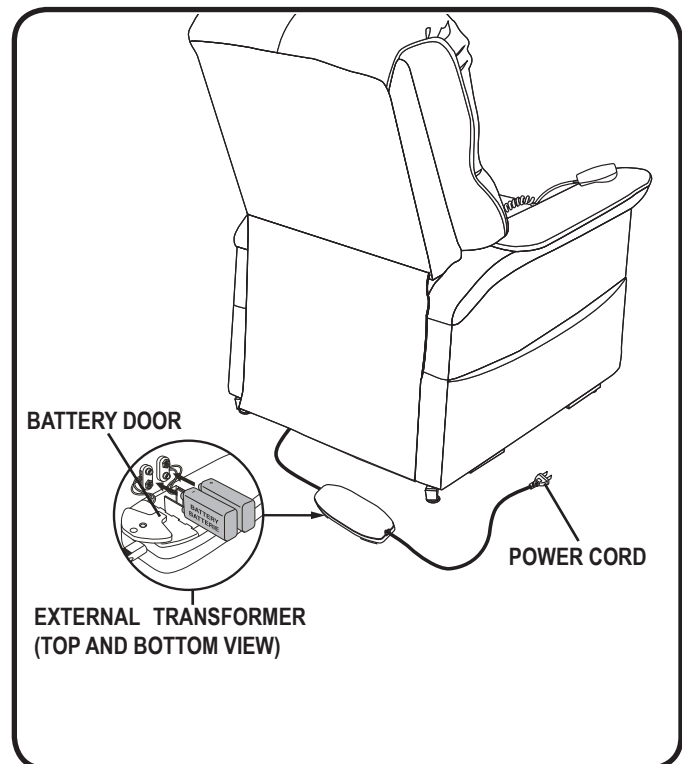

Figure 4.3 Chair Battery Back-up Location
3. Install two 9V batteries in the external transformer (fig. 4.3).
**NOTE:** Always make sure the external transformer is equipped with two fresh 9V batteries, since the battery back-up system does not recharge itself. Fresh batteries are defined as 9V alkaline batteries that are replaced every time the battery back-up system is activated during a power failure, or once every six (6) months if the battery back-up system has not been activated. For best performance, heavy duty or industrial strength alkaline or non-rechargeable lithium-ion 9V batteries should be used. Ensure that the marked battery door is replaced after installing new batteries. Failure to replace 9V batteries as recommended may result in your chair not operating in the event of a power failure.